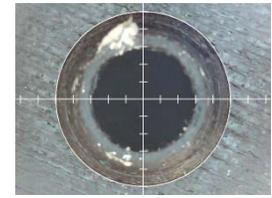

Figure 5-3: Prime Cup Center Enclosed by Grid
- In the Camera Window, select **Grid On**. Use the Z motion control button to zoom in closer, then use the X and Y buttons to surround the center of the Prime Cup with the grid circle. The shape should measure 10 millimeters across (10 grid tics; 5 grid tics from center each way), as shown in Figure 5-3.